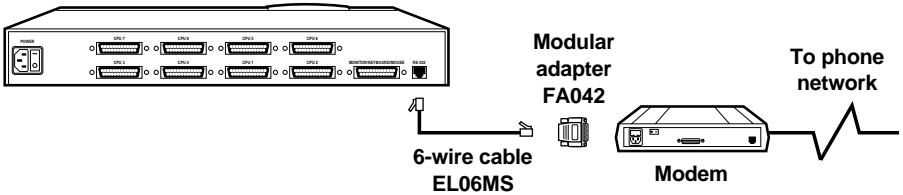

Figure 14. RS-232 connection to DB25 male computer port.
- If you are connecting the Switch to a computer at another site through a **modem** with a **DB25 female** serial port, use the 6-wire cable **EL06MS** and the DB25 male adapter **FA042**, as shown in Figure 14.